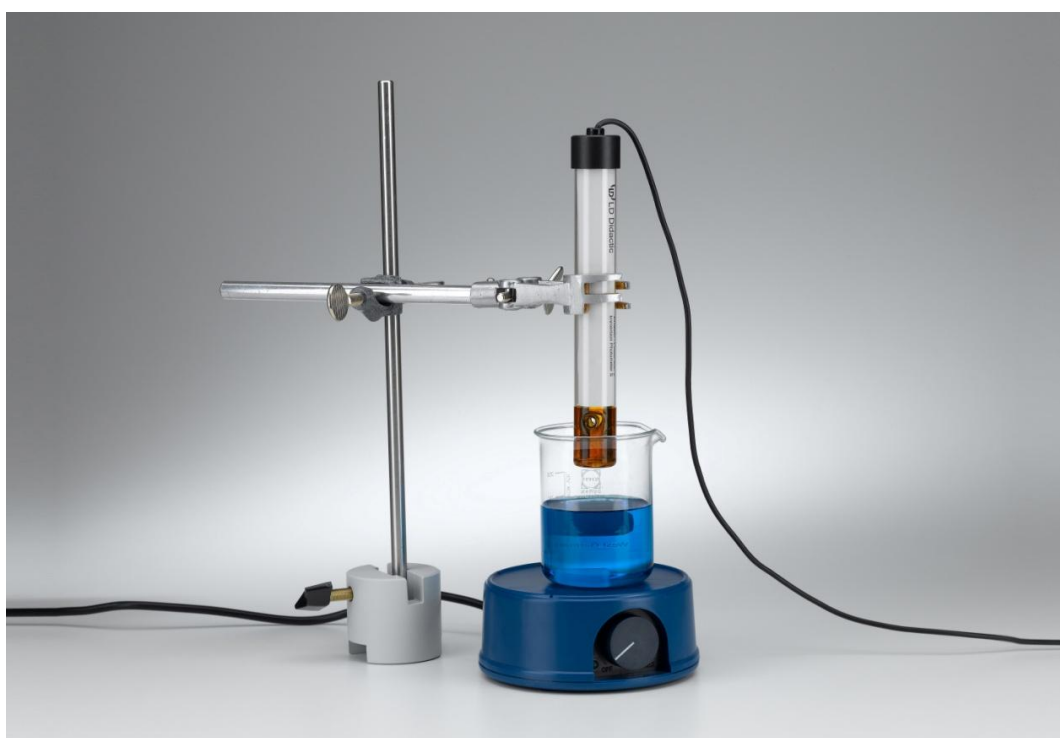

Fig. 1: Set-up of the experiment.
For the photometric measurement, set up an apparatus consisting of a magnetic stirrer, stand material and an immersion photometer (see Fig. 1). Prepare the beaker with a stirring magnet. Connect the Peleus ball to the graduated pipette. Using this, add the sodium hydroxide solution to the reaction mixture.
b. Immerse the immersion photometer S into the solution and fix it in place (see Fig. 1). A constant absorbance should be measured (c. 0.8).